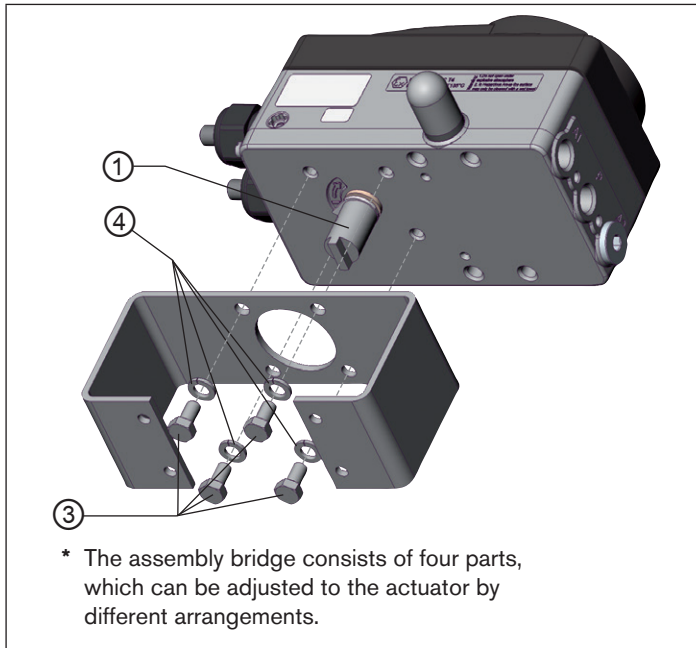

Fig. 7: Attaching the assembly bridge (schematic representation)
- Attach the assembly bridge with 4 cylinder head screws ③ and circlips ④ to the positioner (see "Fig. 7").